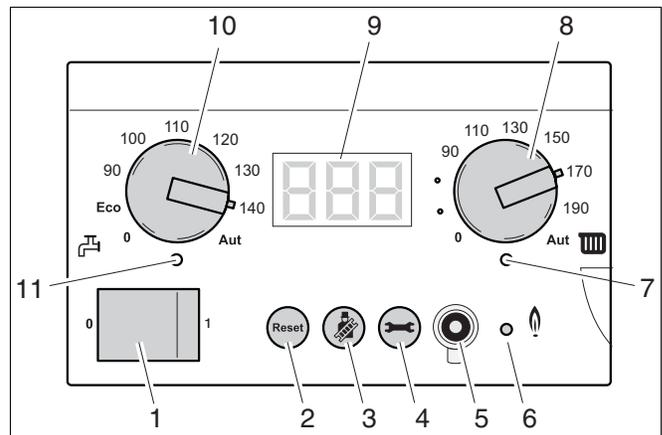
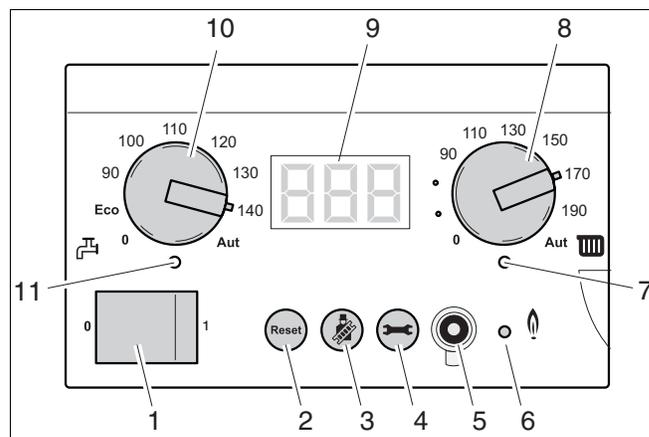

Fig. 59 BC10 basic controller
Fig. 63 BC10 basic controller
- Switch OFF the heating system by pressing the main switch of the BC10 basic controller (fig. 59, pos. 1).
- Switch ON the heating system by pressing the main switch of the BC10 basic controller (fig. 59, pos. 1).
- After the LED "Burner operation" (fig. 59, pos. 6) has lit wait for one minute until the boiler is burning at part load.
- Press the "Chimney sweep" button (fig. 59, pos. 3) until the dot disappears from the display.
- Switch ON the heating system by pressing the main switch of the BC10 basic controller (fig. 63, pos. 1).
- Press and hold the "Chimney sweep" button (fig. 59, pos. 3) (approx. two seconds), until the dot in the right-hand bottom corner of the display (fig. 63, pos. 9) appears. See also table 8, "Flue gas test", page 41.
- After the LED "Burner operation" (fig. 63, pos. 6) has lit wait for one minute until the boiler is burning at full load.